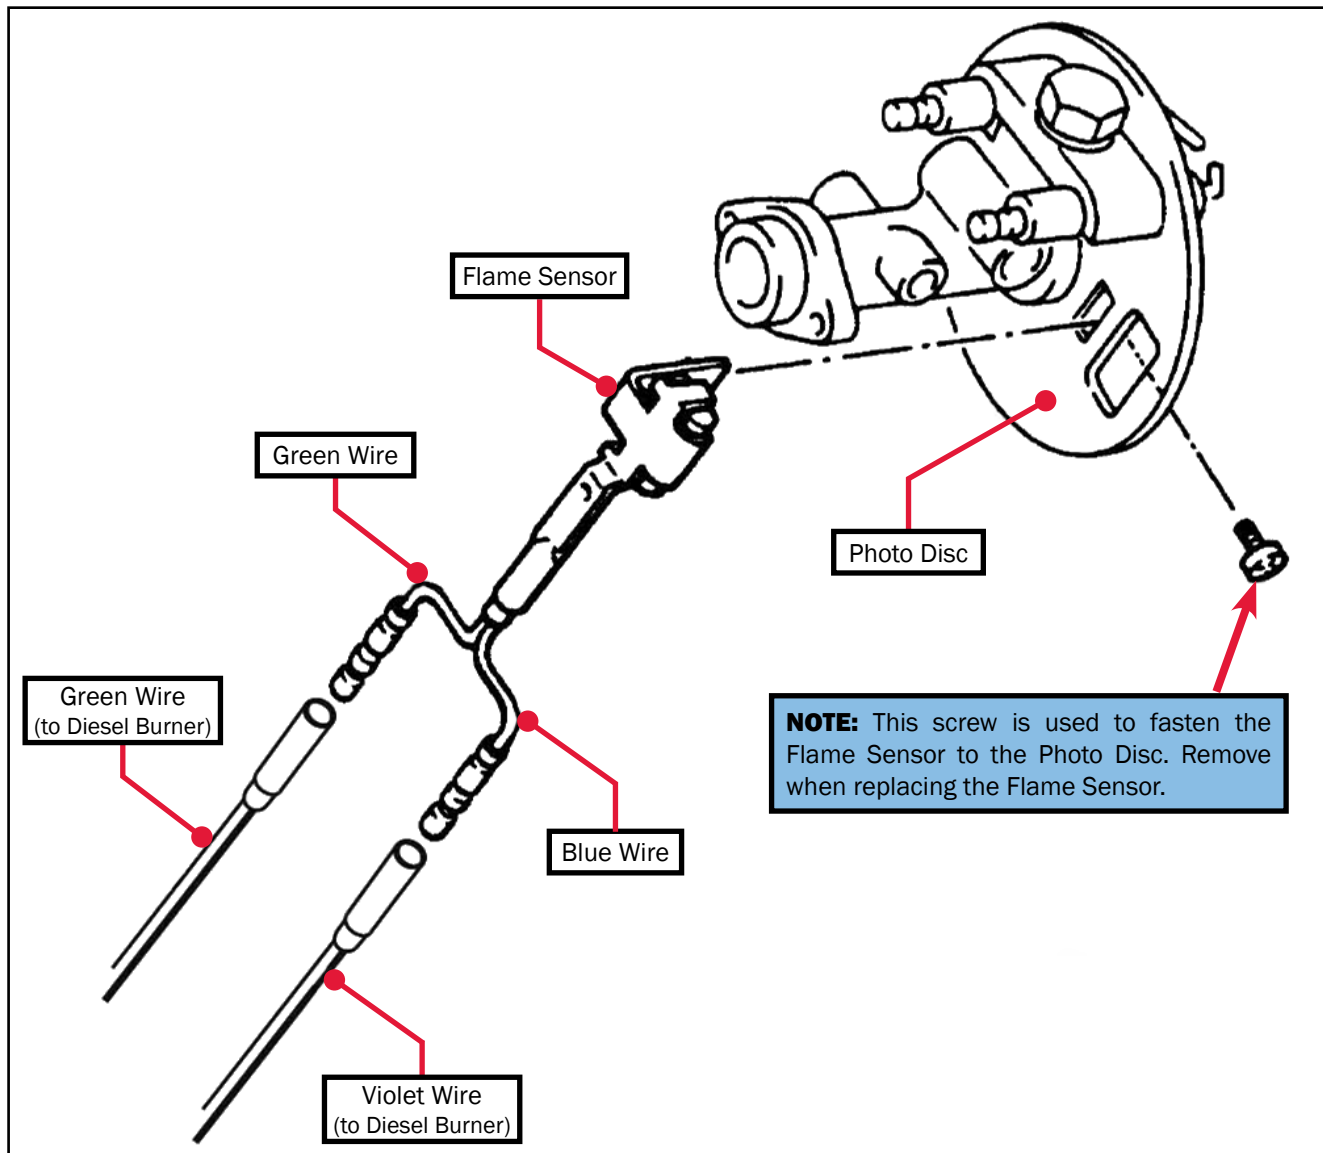

Figure 109
2. Remove the screw that fastens the flame sensor to the photo disc (as shown in Figure 109), and detach the flame sensor's green and blue wires from the C-plug harness' green and violet wires. Remove the defective flame sensor.